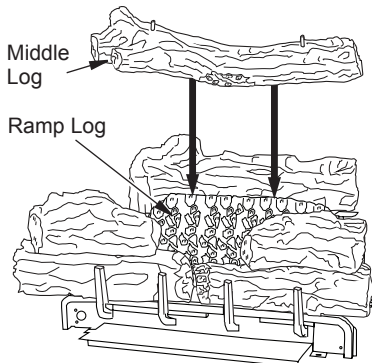

Figure 34 - Installing Middle Log
7. Place the middle log onto the ramp log as shown in Figure 34, page 22. The middle log has two tabs on the bottom to position from left to right on the ramp log. The front of the middle log should be touching the front left and right top logs.